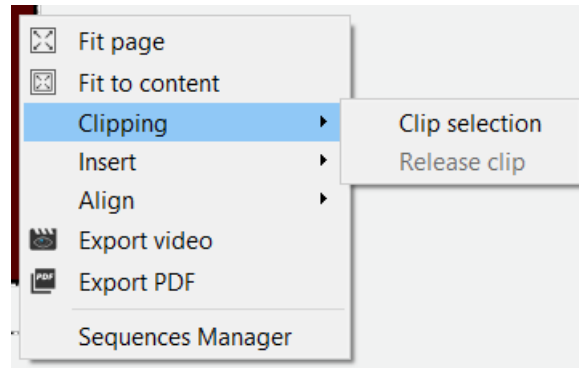

Figure 13.29: The context menu for clipping.
- Using the ellipse or rectangle drawing tool, easily clip any *iris* objects simply by drawing a shape over the area within the object to be clipped, selecting the objects and the drawn shape, and then pressing “C” on the keyboard. Selecting any clipped objects and pressing shift + “C” will unclip the objects. Objects can also be clipped by using the context menu shown in Fig. 13.29 when right clicking on two selected objects.